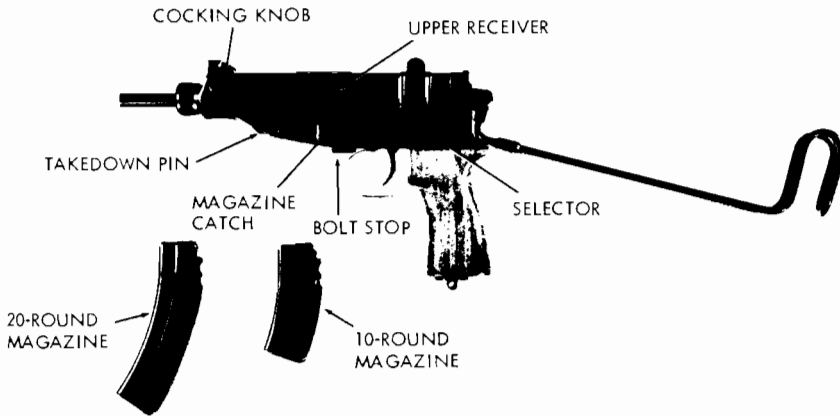
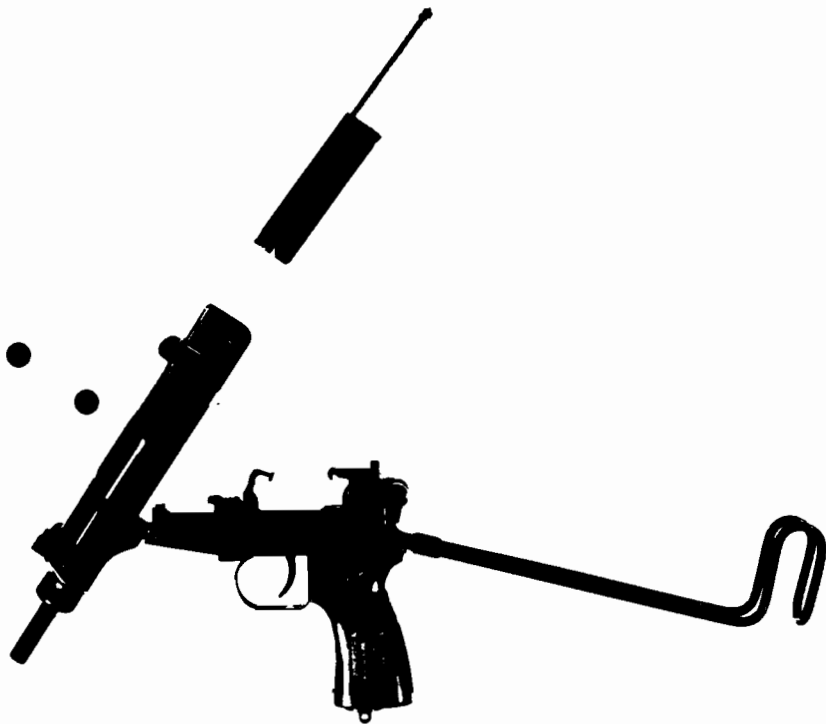

Figure 10. 7.65-mm Vz 61 (Vz 61) Skorpion machine pistol with 10- and 20-round-capacity magazines.
Figure 11. Vzor 61 Skorpion machine pistol, field stripped.
The Czechoslovak 7.65-mm Vz 61 machine pistol (fig. 10), nicknamed "Skorpion," is used by the Czechoslovak Army and security forces; it has also been offered for sale to other countries. It is a blowback-operated, selective-fire weapon using 10- or 20-round box magazines and is equipped with a sturdy wire shoulder brace. The mild recoil of its relatively weak 7.65-mm cartridge (sec. VI), coupled with its cyclic-rate reducer, makes the Skorpion a very comfortable weapon to fire.
b. Swing the selector (fig. 10) to its mid or "O" position (to make the pistol safe) and insert a loaded magazine into the recess ahead of the trigger guard until the magazine catch (fig. 10) engages the magazine. Grasp the cocking knobs (fig. 10) between the thumb and forefinger; pull them fully to the rear and release them. The bolt will return forward.
f. To clear the pistol, remove the magazine as in "e" above, press up on the bolt stop (fig. 10), and retract the bolt fully; it will be caught by the bolt stop. Set the safety on "O" and examine the pistol to insure that no cartridges are present. Move the safety off "O," pull back on the cocking knobs slightly, and release them. Reset safety to "O" and reinsert magazine.
b. Pull the takedown pin (fig. 10) out to the left as far as possible; pull the upper receiver unit forward about three-sixteenths of an inch and then swing down the barrel (fig. 11).